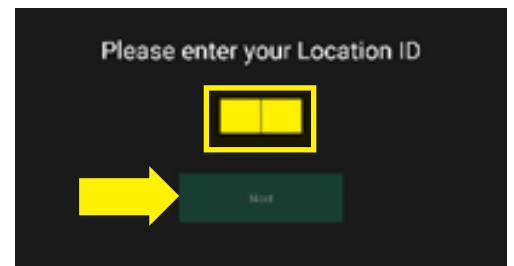

Figure 24
9. Enter Your Location ID listed on your CloudSent Log On Sheet found in the Red Bag (Figure 24).